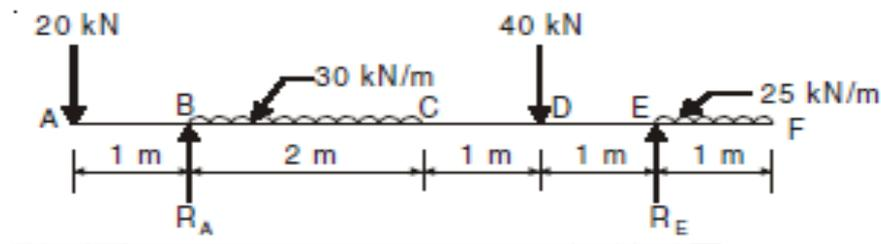

Figure 2
- b) Draw the shear force and bending moment diagram for the beam as shown in Figure 2 below. Also find the point of contraflexure if any.